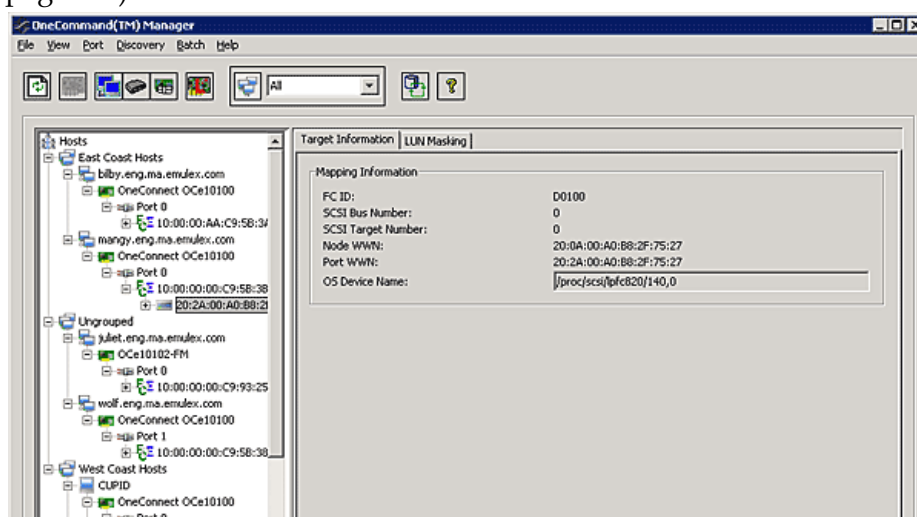

Figure 8-18 Target Information Tab
When you select a target associated with an FC/FCoE adapter from the discovery-tree (Figure 4-3 on page 40), the Target Information tab (Figure 8-18 on page 140) displays information associated with that target.
2. In the discovery-tree (Figure 4-3 on page 40), select the FC/FCoE target whose information you want to view. The Target Information tab appears (Figure 8-18 on page 140).